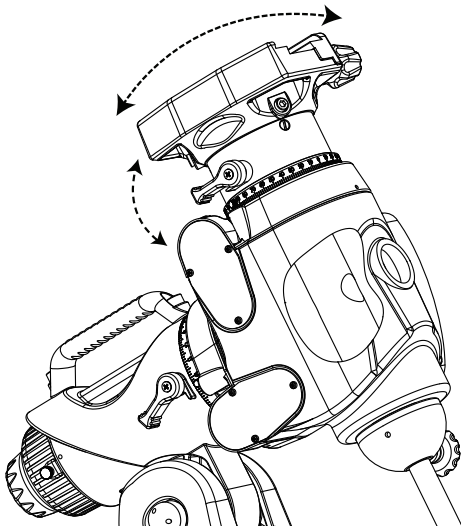
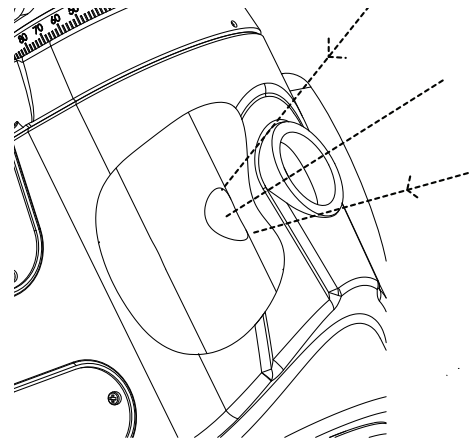

Fig. 3.1a
Fig. 3.1b
3. Remove the polar scope cap on the mount, loosen the Dec. clutch, and rotate the Dec. axis to allow the hole on the Dec. shaft to fully open for the polar scope and then lock the Dec. clutch again. (Fig. 3.1a & Fig. 3.1b)